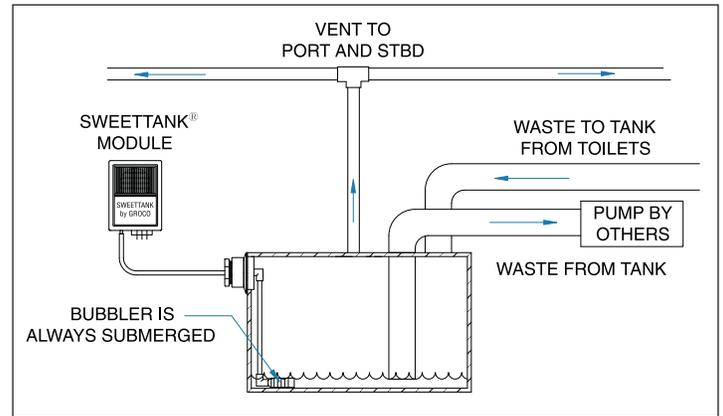

FIGURE-2
**Tank-Side Installation (see Figure-2):**